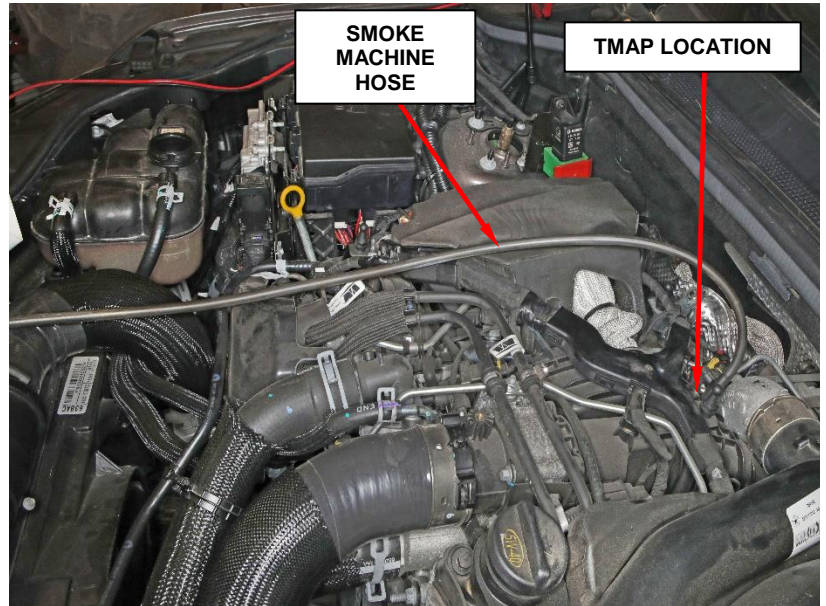

Figure 5 – Smoke Test Location
5. Insert the smoke machine hose into the TMAP hole of the intake manifold and allow the intake to build up smoke (Figure 5).